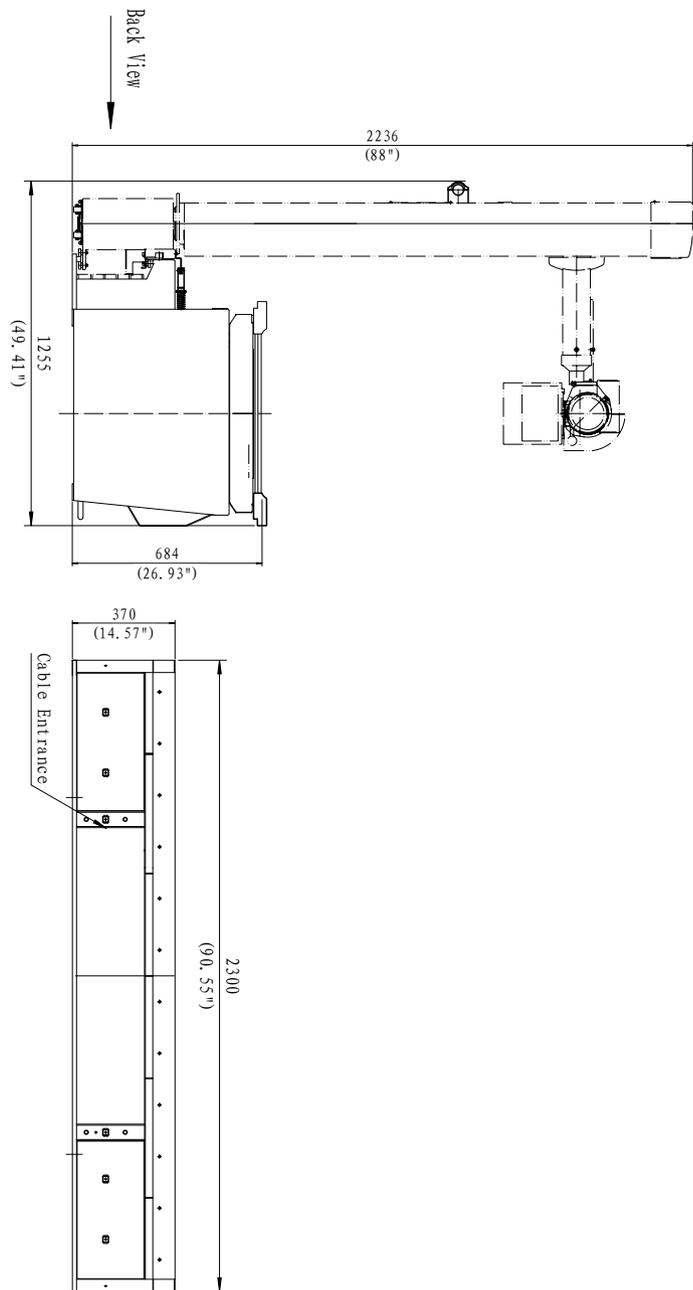
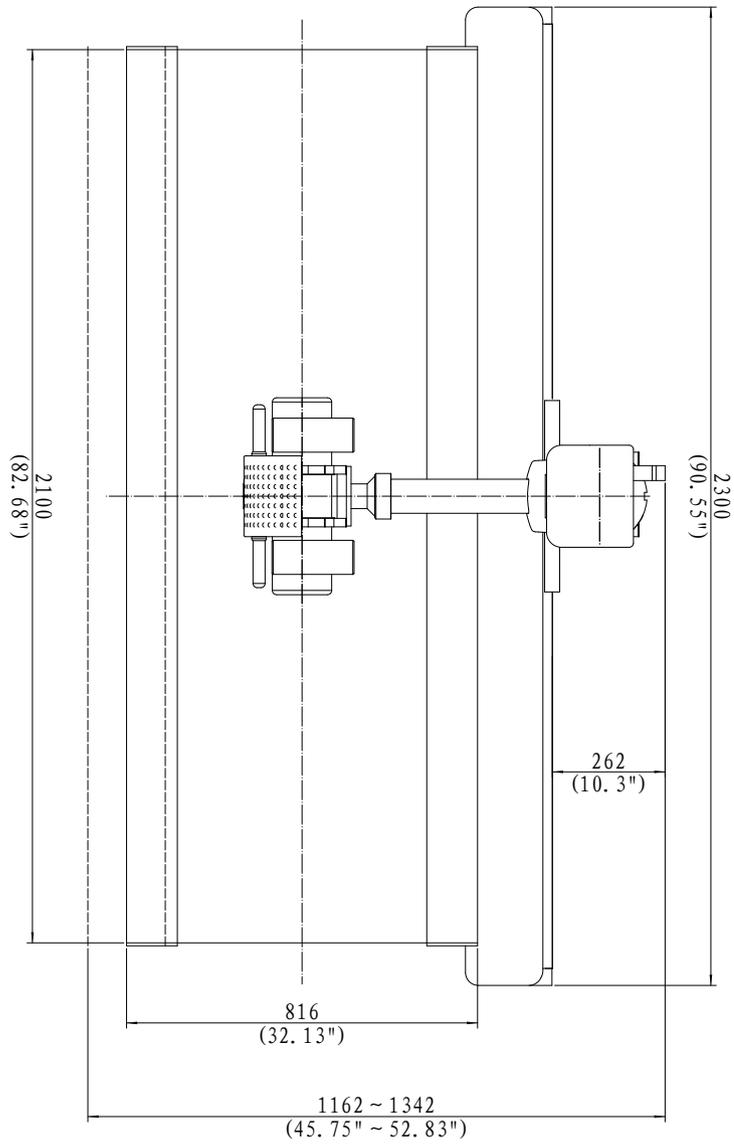

Figure 6-4 Integrated Table Side View
Figure 6-6 Integrated Table Top View
- Integrated Table - Figure 6-4 through Figure 6-6.